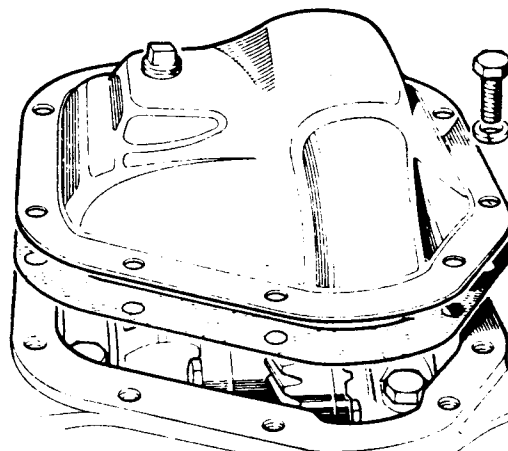

Fig J2.2
- (6) Refer to Fig J2.2. Remove the fixings at the differential cover and joint washer.